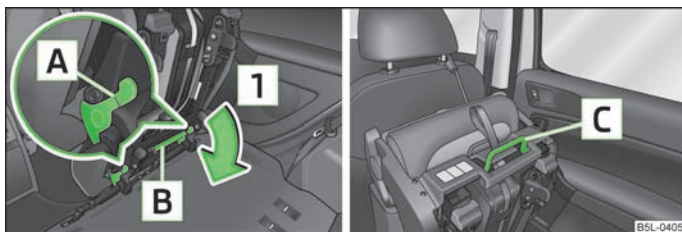

Fig. 51 Unlocking the folded forward seat/carrying handles on the seat cushion
- Unlock the folded forward seat by pressing the seat locks **A** in direction of arrow **T** » Fig. 51.
- Fold the outer seat forward » page 66 and unlock » Fig. 51.